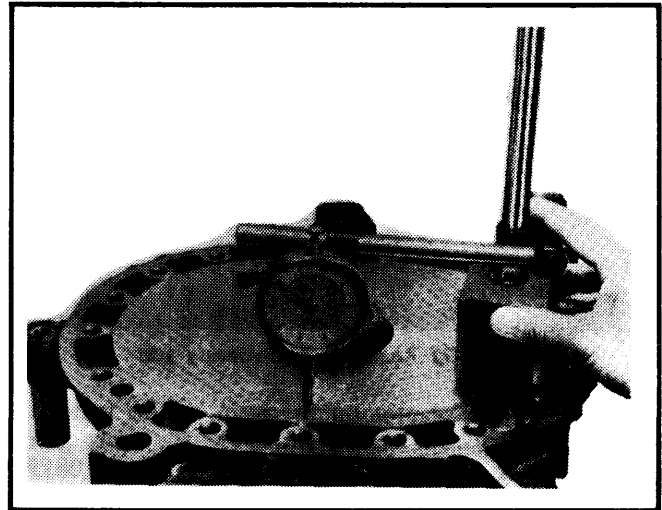

Fig. 8 Measuring Housing Wear with a Dial Indicator
4) Check for wear on rotor sliding surfaces of housing and joint surfaces with rotor housing. Measurements are made using a dial indicator, Fig. 8. If wear exceeds .0039" (.10 mm), reface or replace housing.